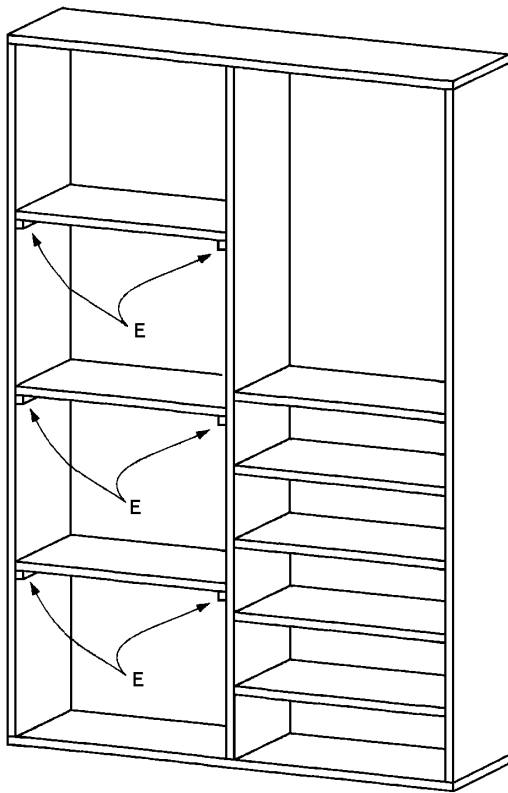

Figure 3
9. Cut six left shelf supports (E) from 1 x 1 pine, each measuring 11-1/4 inches long.
10. Glue and nail one shelf support (E) under the left side of the upper shelf (D), as shown in *Figure 3*. Apply glue on the meeting surfaces, and nail through the shelf support (E) into the shelf (D) and the side (B) using three 1-1/4-inch nails in each direction.
11. Repeat Step 10 five more times to install a shelf support (E) under each side of each left shelf (D), as shown in *Figure 3*.
12. Cut one back (F) from 1/4" plywood, measuring 42-1/4" x 62-3/4".
13. With the armoire case lying on its front, apply glue to the back edges of the top/bottoms (A), sides (B) center divider (C), and shelves (D). With the help of a friend, lay the back (F) on the armoire case, matching all outside edges. Screw through the back (F) into the edges of the top/bottoms (A), sides (B) and center divider (C), using 1-inch screws spaced 6 inches apart.